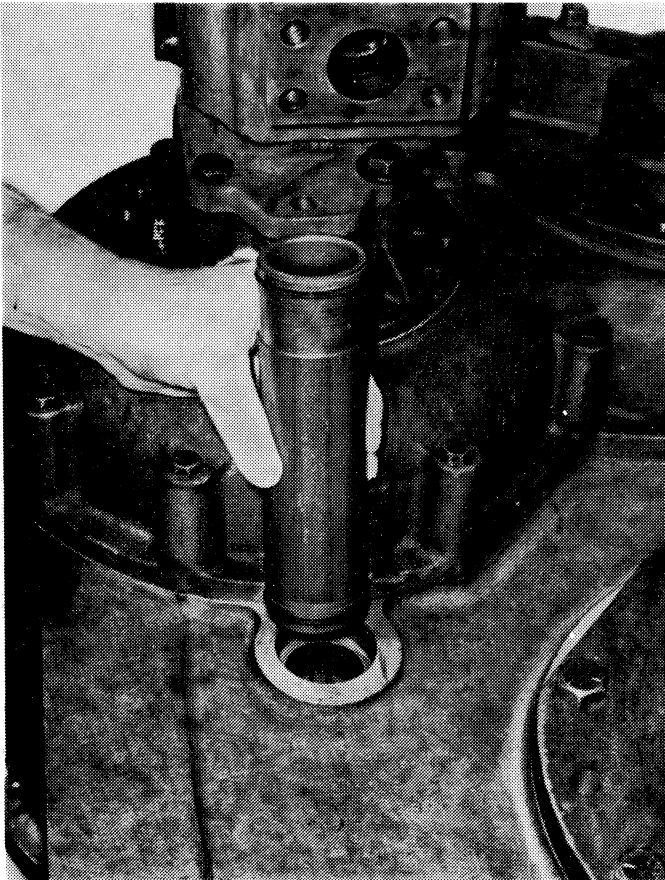

Figure 6-8. Removing or Installing Connector Tube.
16. Remove the O-ring (29) from the top of the oil strainer housing (30).
17. Pull the connector tube (28) from the housing and remove the O-rings (27) from the tube. See Figure 6-8.